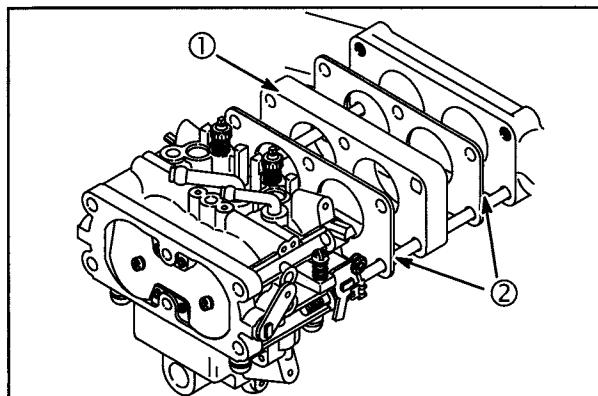

**Fig. 23**
**Early style: Fig. 23**
1. Insert carburetor mounting screws (5) through carburetor, gasket (1), spacer (4) and gasket (1).
- a. Make sure that locating pin on carburetor spacer (2) fits in recess in manifold (3).